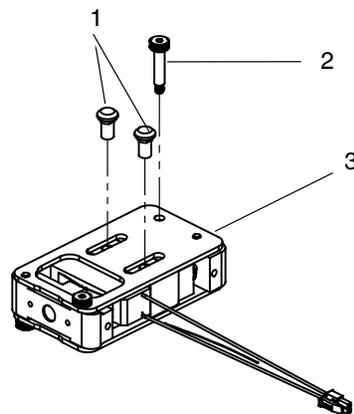

Figure 7-13 Frame Plate Disassembly
5. Turn the applicator over as shown in Figure 7-13 and place back on table.